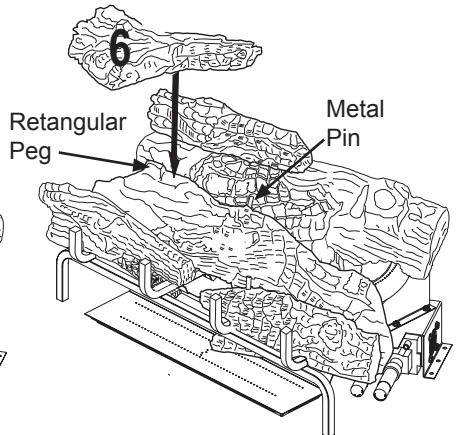

Figure 42 - Installing Log # 6
6. Place the left top forked log (#6) on the top of the middle log (#2). Match the rectangular projection on top of the middle log (#2) with the rectangular hole on the bottom of the left top forked log (#6). Match the metal pin on the top of the middle log (#2) with the round hole in the bottom of the left top forked log (#6). See Figure 42.